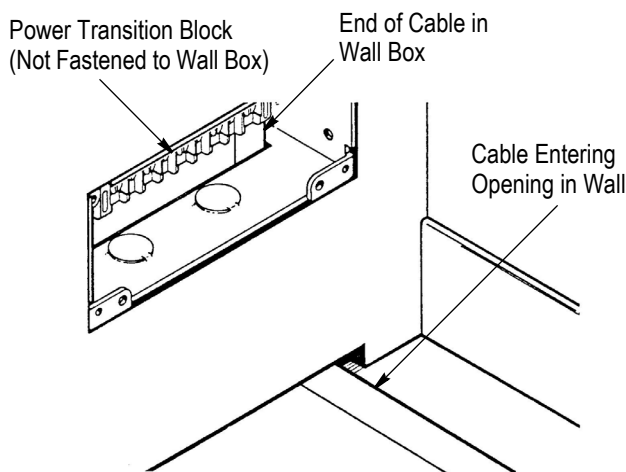

Figure 5
4. Install the power transition block onto the end of the power cable that is in the wall box according to the instruction sheet included with the power transition block. **DO NOT** fasten the transition block to the wall box at this time. See Figure 5.